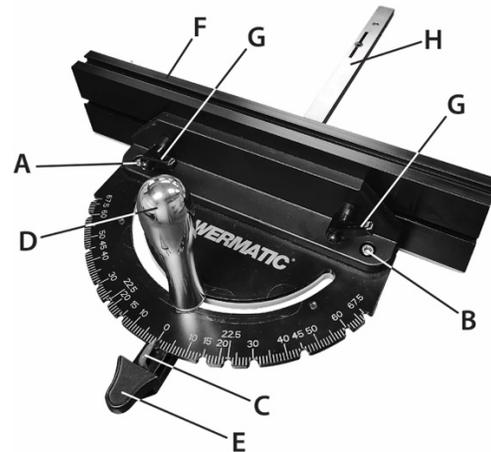

Figure 22A
10.3.1 Adjusting miter gauge angle for operations (see Figure 22A)
10.3.3 Extension plate (see Figure 22A)